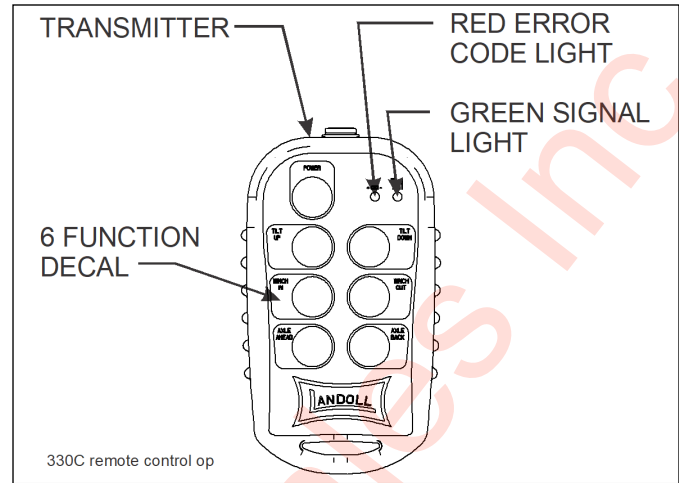

Figure 3-8: Remote Control Transmitter
1. A wireless six function radio remote control is available (**See Figure 3-8.**)